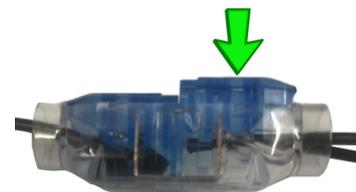

Figure 3
5. Once the wires are fully in the middle of the joiner squeeze the blue tab until it closes into place. Be aware you will only have one chance to squeeze the blue tab as once it's locked, it will not come undone. Make sure the tab is fully locked down and flush with the surface (See Fig.3).